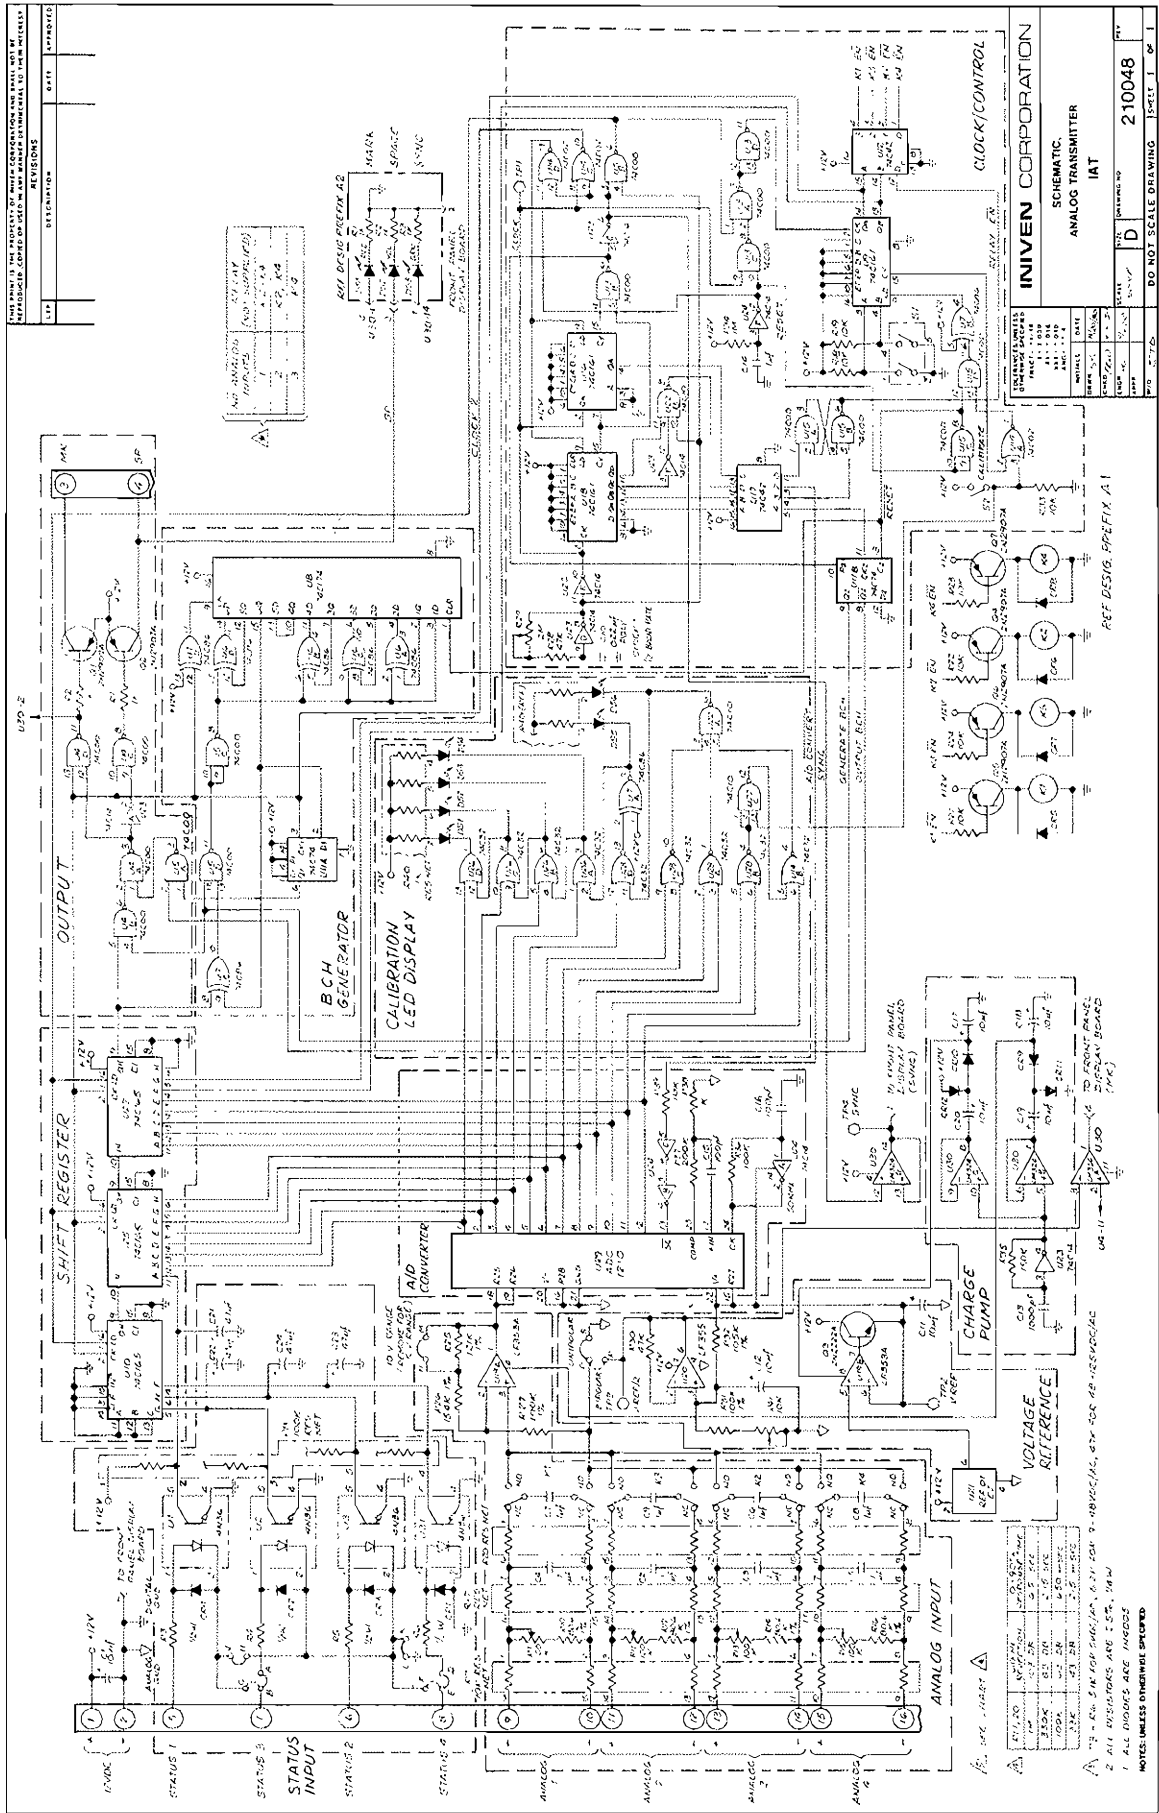

Figure 2. IAT Analog Transmitter—Schematic Diagram
4. THEORY OF OPERATION (See Figures 2 and 3)